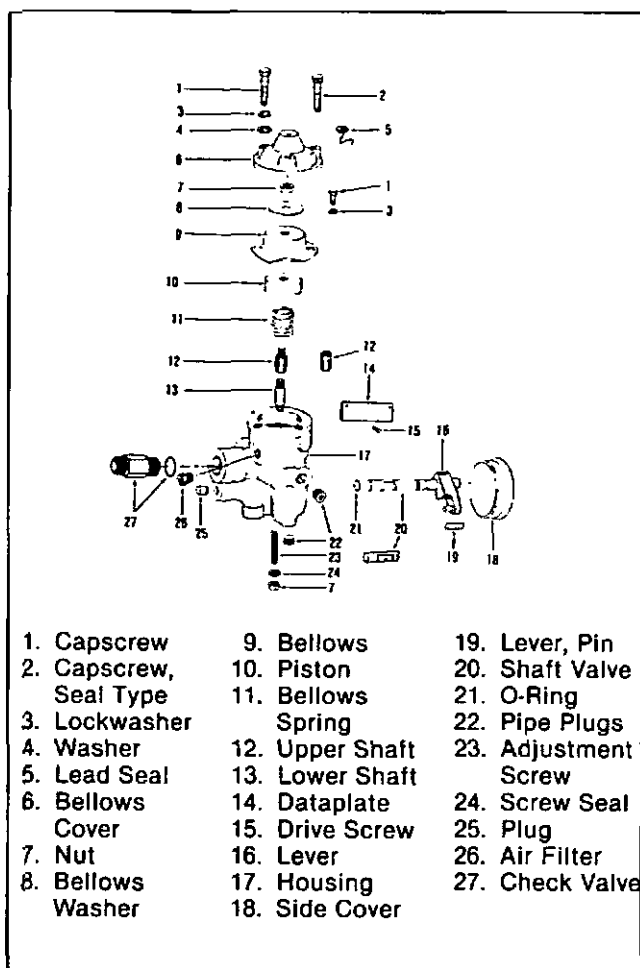

Fig. 16-9, (F5249). Aneroid exploded view.
No special tools are required for disassembly and assembly. Fig. 16-9.
4. Put a coating of lubricating oil on the new bellows. Assemble the aneroid like Fig. 16-9. Make sure the capscrew holes in bellows align with the holes in the aneroid body. Tighten the piston shaft nut or capscrew 20 to 25 inch lbs. [2.3 to 2.8 N•m]. Tighten the cover capscrews 30 to 35 in. lb. [3.4 to 4.0 N•m].